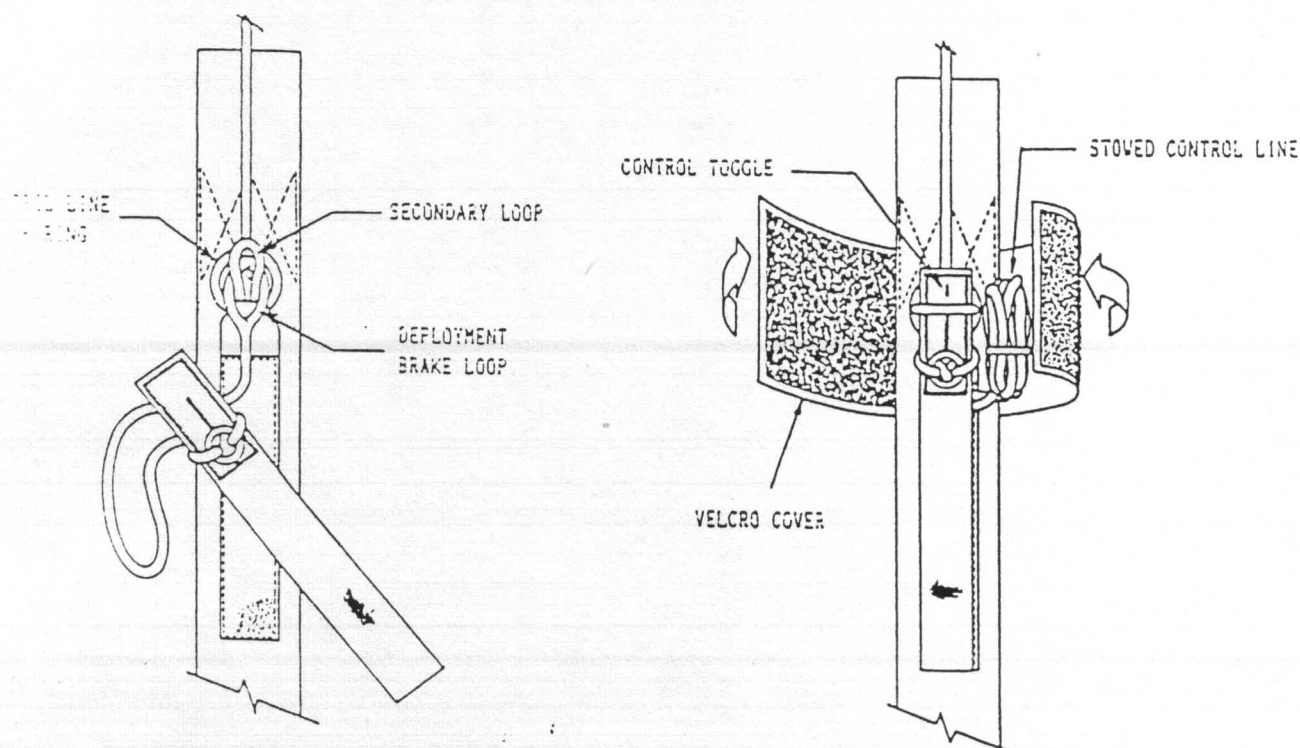

FIGURE 4
**NOTE:** Some harness/container manufacturers do not specify the use of the secondary loop sewn to the riser as shown in Figure 4, and instead specify that the upper end of the control toggle be inserted directly through the deployment brake loop on the primary control line. The illustrations in Figure 4 are only an example of a popular method in common use in the industry, and are not intended to replace your harness/container manufacturer's assembly instructions. Follow the specific harness/container instructions to set the deployment brakes.